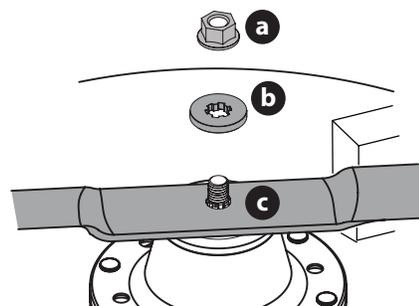

Figure 56
2. Remove the flange lock nut (a) and flat washer (b) from the spindle shaft and remove the blade (c) (Figure 56).